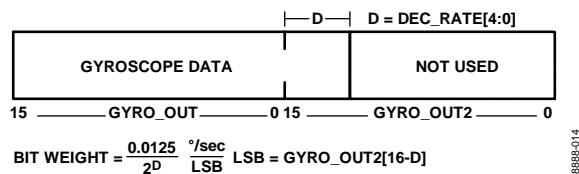
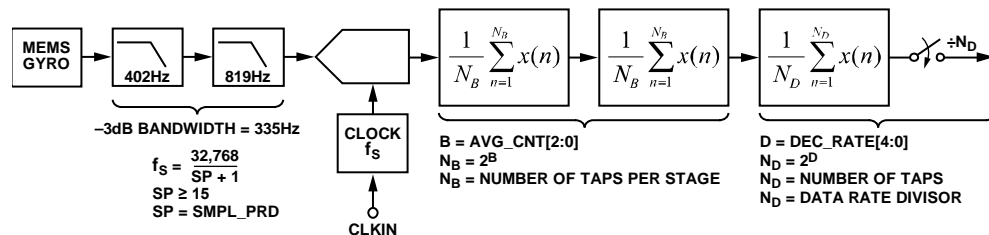

Figure 14. Gyroscope Output Format, DEC_RATE[4:0] > 0
Figure 18. Sampling and Frequency Response Block Diagram
The GYRO_OUT2 register (see Table 11) captures the bit growth associated with the decimation filter shown in Figure 18, using a MSB-justified format. The bit growth starts with the MSB (GYRO_OUT2[15]), is equal to the decimation rate setting in DEC_RATE[4:0] (see Table 18), and grows in the LSB direction as the decimation rate increases. See Figure 14 for more details.
Figure 18 provides a block diagram for the sampling and digital filter stages inside the ADIS16135. Table 15 provides a summary of registers for sample rate and filter control.
[15:0]	Clock setting bits; sets f_s in Figure 18
The AVG_CNT register (see Table 17) provides user controls for the low-pass filter. This filter contains two cascaded averaging filters that provide a Bartlett window FIR filter response (see Figure 18). For example, set AVG_CNT[7:0] = 0x04 (DIN = 0xA004) to set each stage to 16 taps. When used with the default sample rate of 1024 SPS, this establishes a -3dB bandwidth of approximately 20 Hz for this filter.
[2:0]	Binary; B variable in Figure 18; maximum = 110 (6)
The DEC_RATE register (see Table 18) provides user control for the final filter stage (see Figure 18), which averages and decimates the output data. For systems that value lower sample rates, this filter stage provides an opportunity to lower the sample rate while maintaining optimal bias stability performance. The -3 dB bandwidth of this filter stage is approximately one half the output data rate. For example, set DEC_RATE[7:0] = 0x04 (DIN = 0xA204) to reduce the sample rate by a factor of 16. When the factory default 1024 SPS sample rate is used, this decimation setting reduces the output data rate to 64 SPS and the sensor bandwidth to approximately 31 Hz.
[4:0]	Binary; D variable in Figure 18; maximum setting = 1000 (binary) = 16 (decimal)